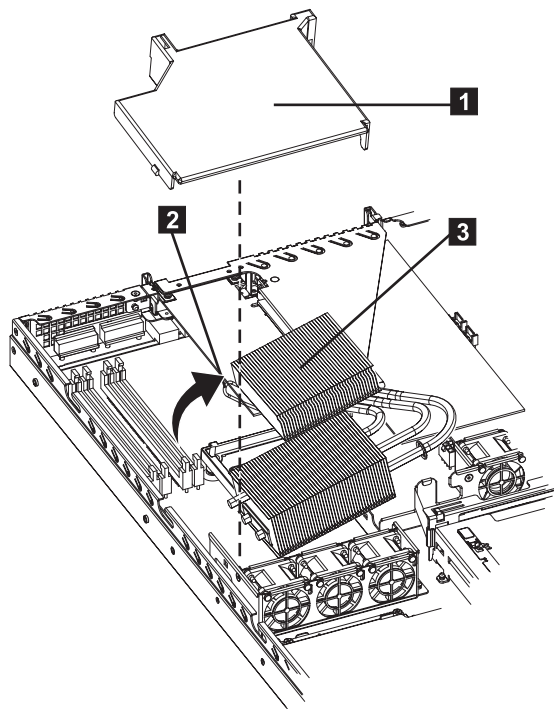

Figure 246. SAN Volume Controller 2145-8A4 air baffle and heat-exchanger assembly
5. Remove the air baffle (1 in Figure 246). Grasp the air baffle by the leftmost and rightmost rear corners and lift it up out of the node.
6. Open the heat-exchanger-assembly release latch (2 in Figure 246) to the fully open position.
7. Lift the side of the heat-exchanger assembly (3 in Figure 246) that is closer to the middle of the node, slide it toward the middle of the node slightly, and lift the entire assembly out of the node.